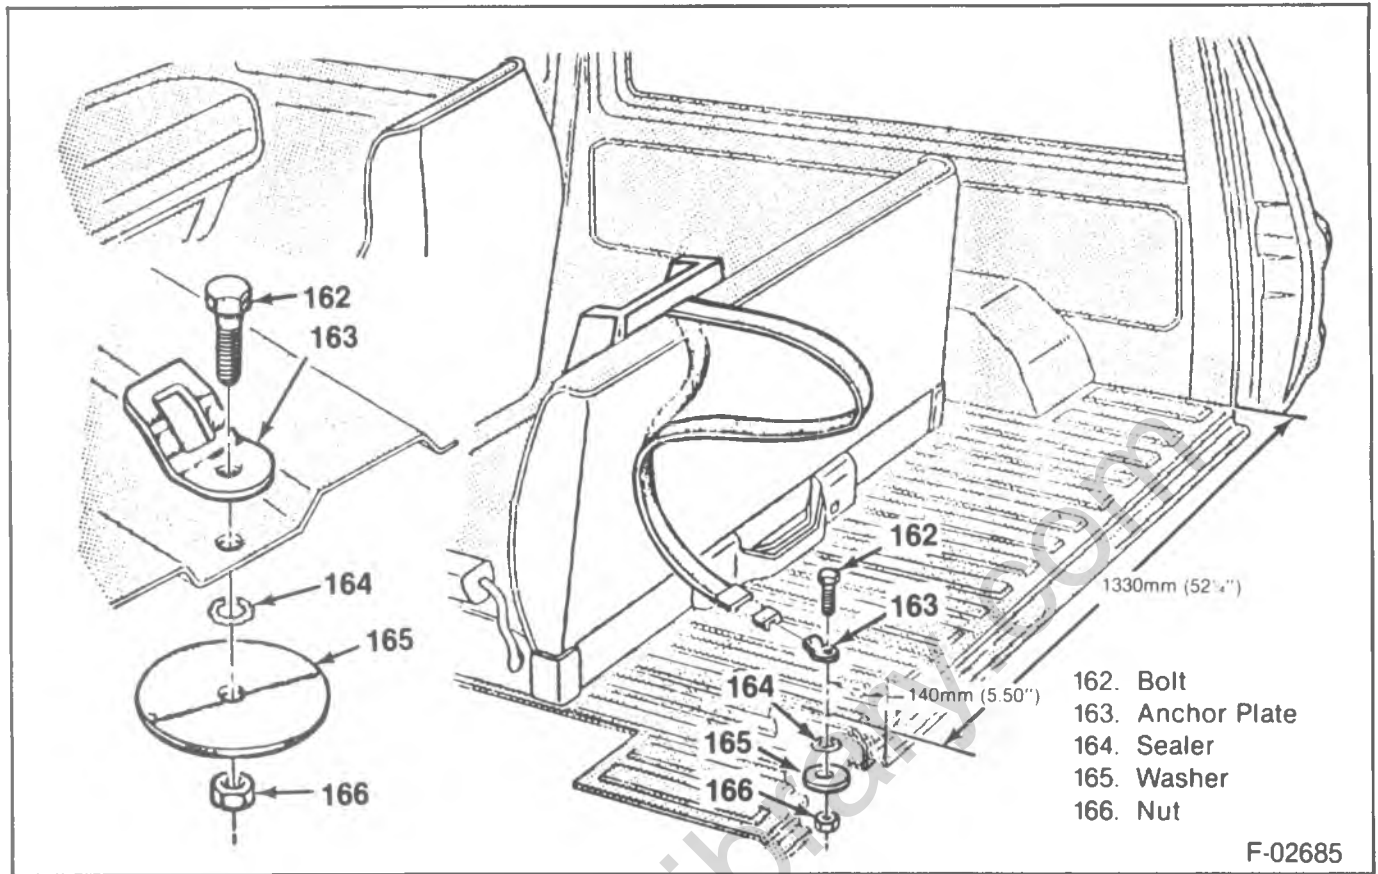

Figure 28—Utility Vehicle Second Seat Top Strap Belt Components
1. Determine the location for the anchor by measuring 140 mm (5½-inches) forward from the rear edge of the floor pan (figure 28). Make this measurement in the center of one of the depressed floor pan ribs. Next, measure 1330 mm (52.25-inches) inboard of the right quarter inner panel. Mark the position where these measurements meet.